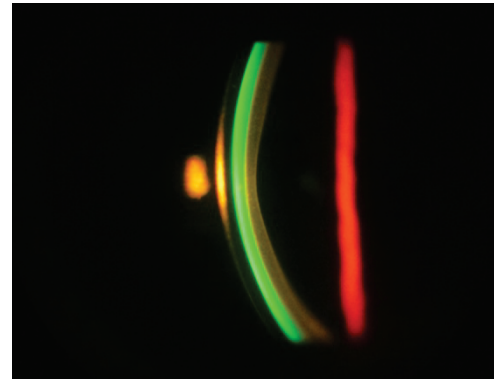

Figure 1
2. Assess the amount of vault of the diagnostic lens by comparing the thickness of the stained reservoir with the thickness of the lens by turning the slit lamp beam at a 45 degree angle to view the lens/reservoir/cornea in cross-section (Figure 1). Ideally, the central reservoir thickness should be equal to the lens thickness. Scleral lenses settle by approximately 200 microns after 60 minutes of wear, which will reduce overall vault to achieve an ideal amount of fluid reservoir.